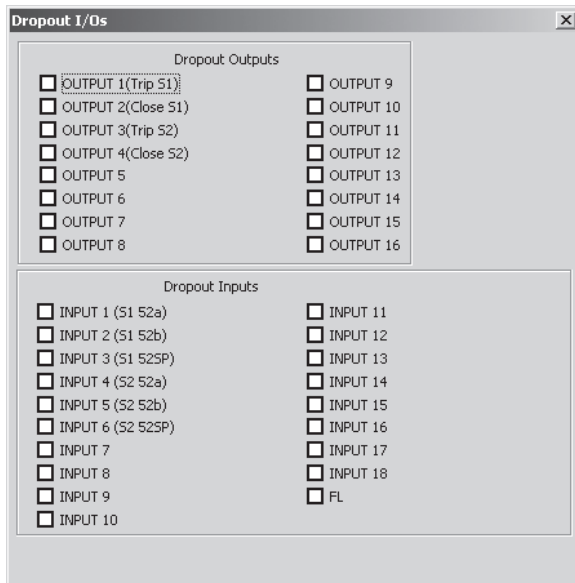

Figure 3-37 Sequence of Events Dropout I/Os Status Screen
- To view the Sequence of Events Dropout Input and Output information select **Dropout I/Os**. ISScom® will display the Dropout I/Os Status screen (Figure 3-37).